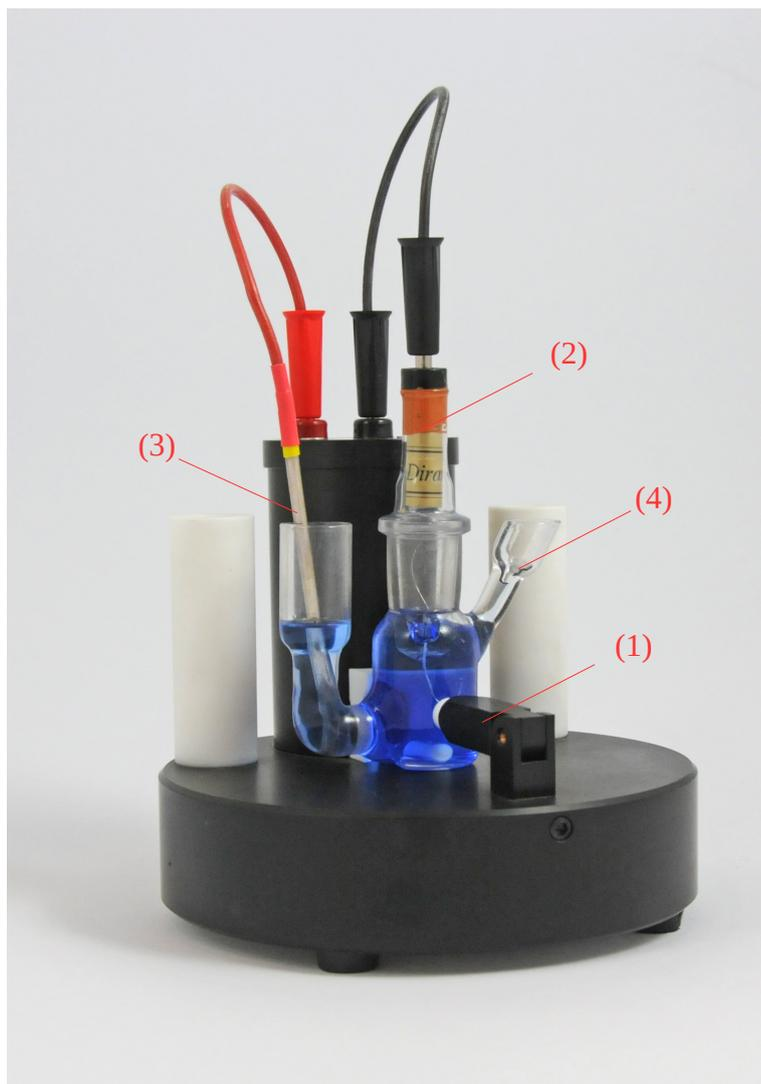

Figure 2: Module KOH
**Insert the pre-filled vessel to the holder and adjust it with the knob, connect the cathode and insert the auxiliary electrode to the anode space. The instrument prepared for measurement is shown in Fig. 2. Connect the Coulometer KOH to the Coulometer WTD by cable with D-SUB 9 connector. Connect Coulometer WTD to the power source. Switch on the Coulometer WTD by the main switch.**